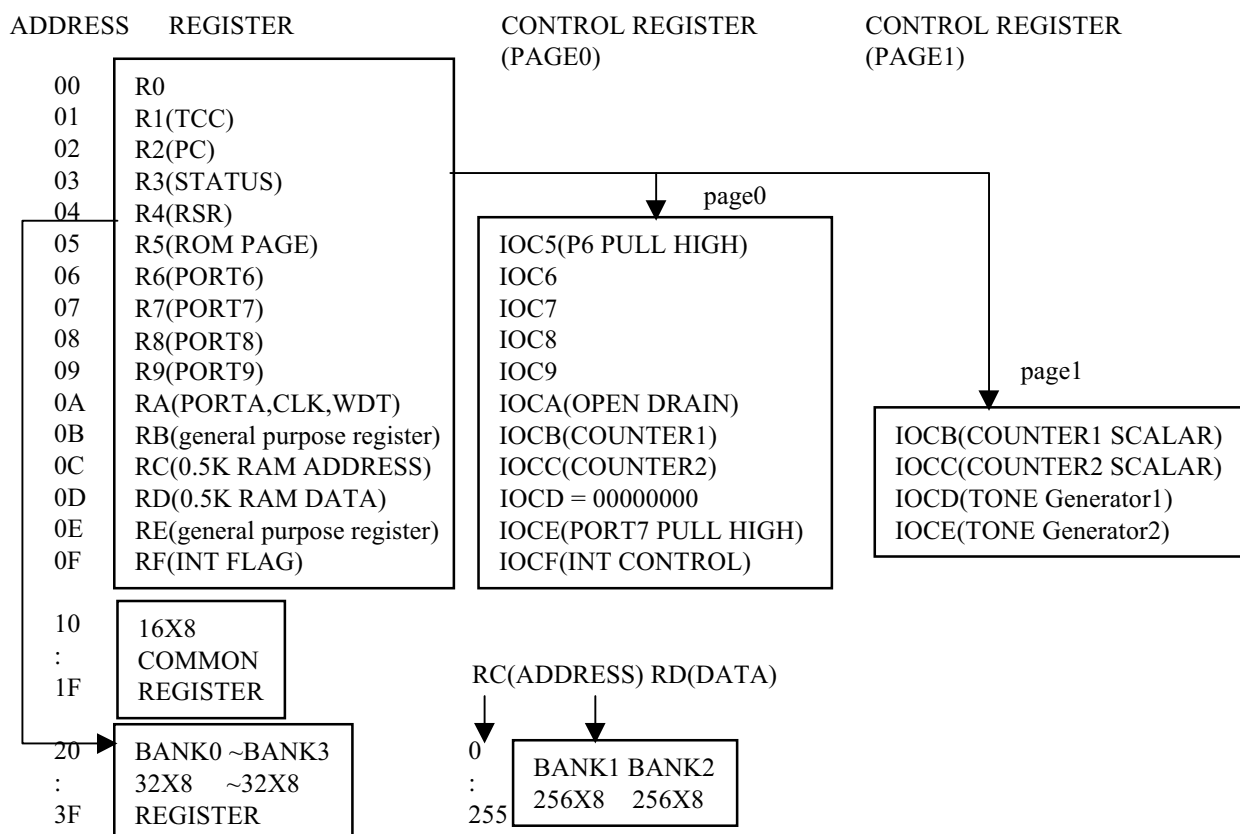

Fig.4 Data memory configuration
- \* See the configuration of the data memory in Fig. 4.